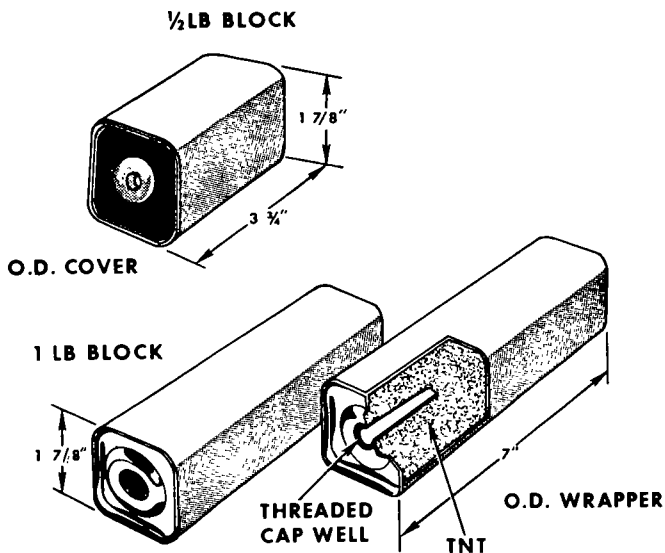

Figure 90. TNT blocks.
a. *TNT (Trinitrotoluene)*. Trinitrotoluene (fig. 90), commonly known as TNT, is one of the least sensitive of military high explosives. TNT is rea-
- (a) The 1/2-pound blocks (fig. 90) are contained in an olive drab wrapper with metal ends. One end is provided with a cap well to receive an electric or nonelectric blasting cap.